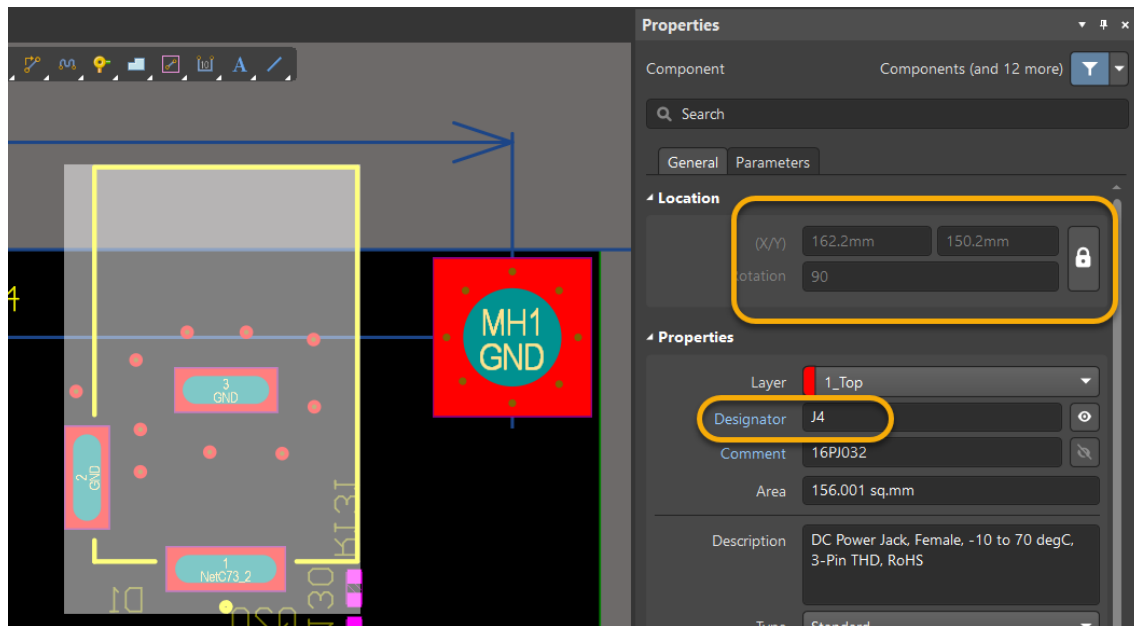

Figure 10. Placement of J4
29. Next, position J4 at the coordinates x: 162.2mm / y: 150.2mm. Feel free to choose any method you know to position J4, Figure 10.